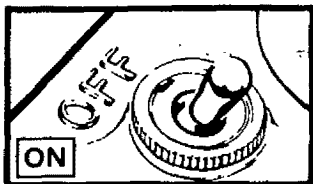

Figure 7
- Move the ignition switch to the "ON" position. Figure 7.